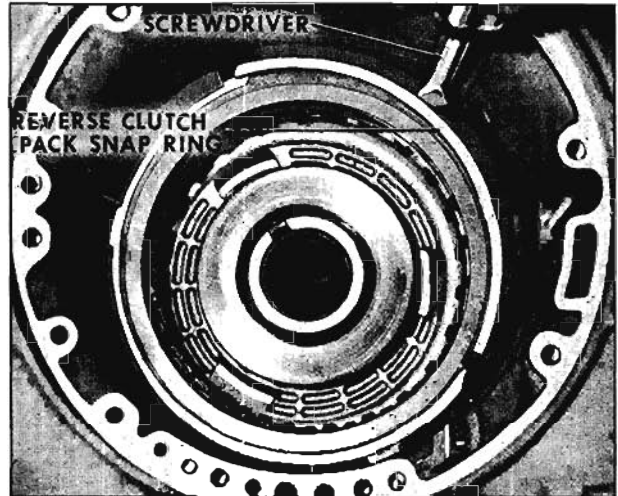

Fig. 6-424 Installing Snap Ring
8. Install reverse clutch pack snap ring. (Fig. 6-424)